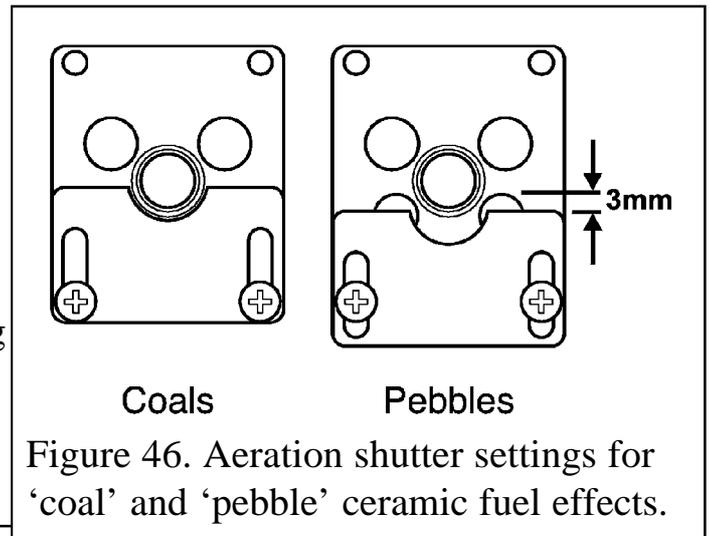

Figure 46. Aeration shutter settings for 'coal' and 'pebble' ceramic fuel effects.
1. The aeration shutter is factory set for use with a ‘pebble’ ceramic fuel effect. It is important to ensure that the aeration setting is correct for the ceramic fuel effect used. Check the aeration shutter setting even if fitting the ‘pebble’ fuel effect (See figure 46).